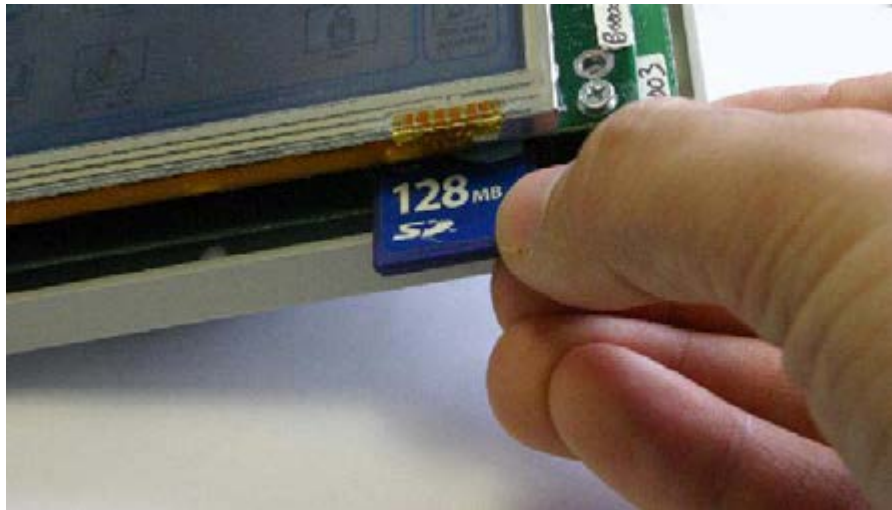

Figure 4-15 Loading an SD-Card into BBC-SD
2. Locate the on-board SD card socket. It is located behind the bottom right corner of the display screen, as shown in Figure 4-15. Insert the SD card into the socket. The card socket uses a spring-loading mechanism to hold the card, therefore, a click noise will occur when the card is pushed up into the socket.